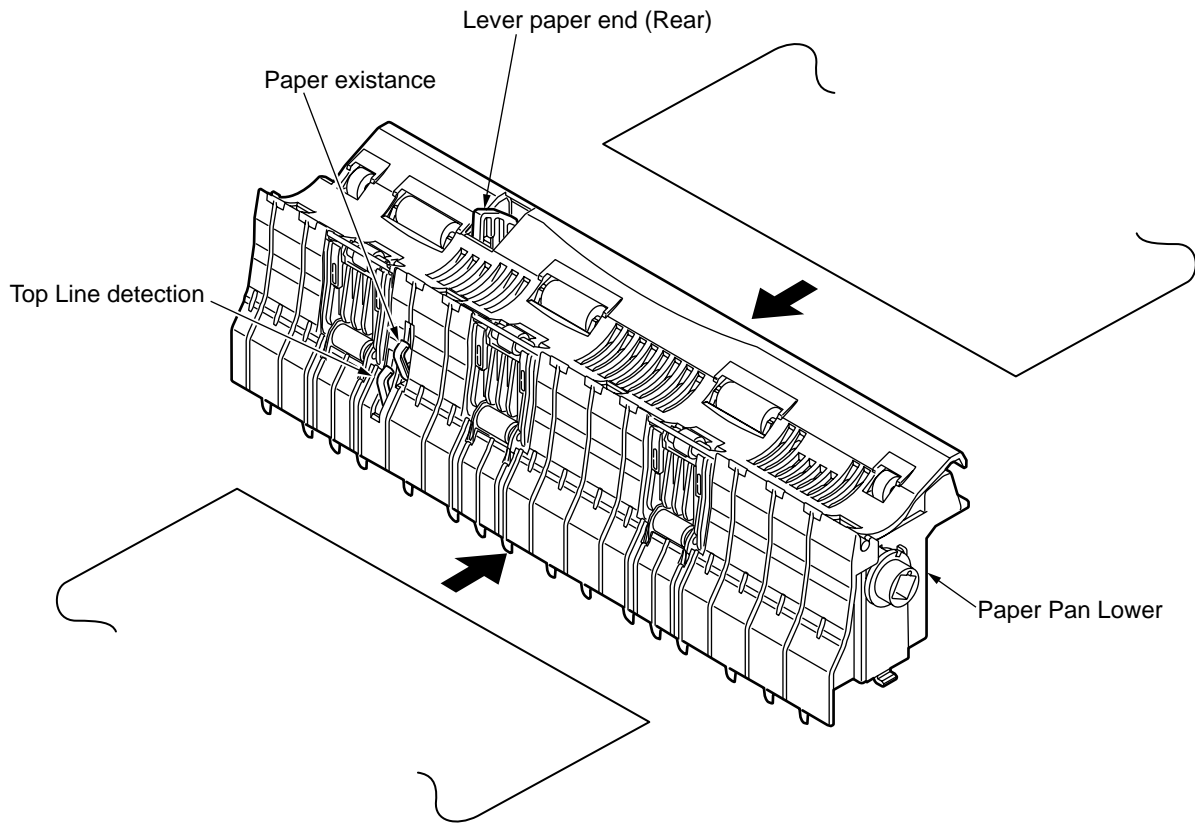

Figure 2-17
2.2.6 Paper Detection Mechanism (See Figure 2-17.)